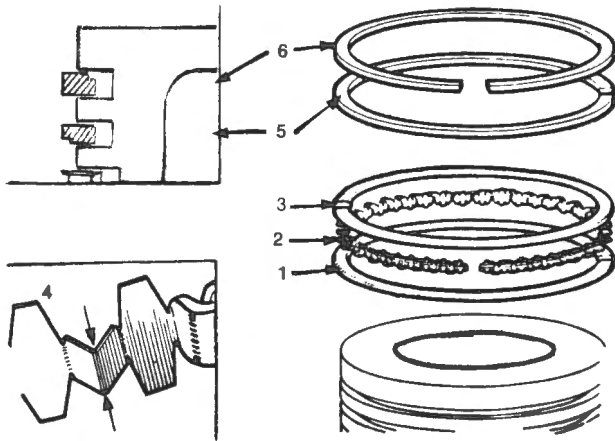

Fig. E-43
- 17 Fit the top compression ring to the groove with the inner shouldered face towards the top of the piston. Refer Fig. E-43.